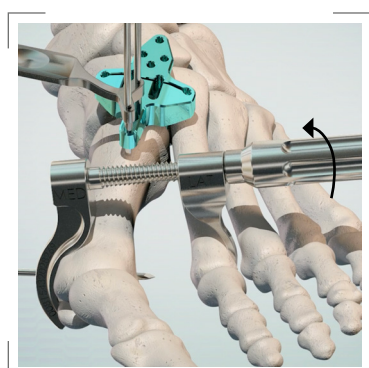

Figure 8
Dial-in the intermetatarsal (IM) angle by turning the reducer knob clockwise until desired reduction is achieved. (Figure 8)